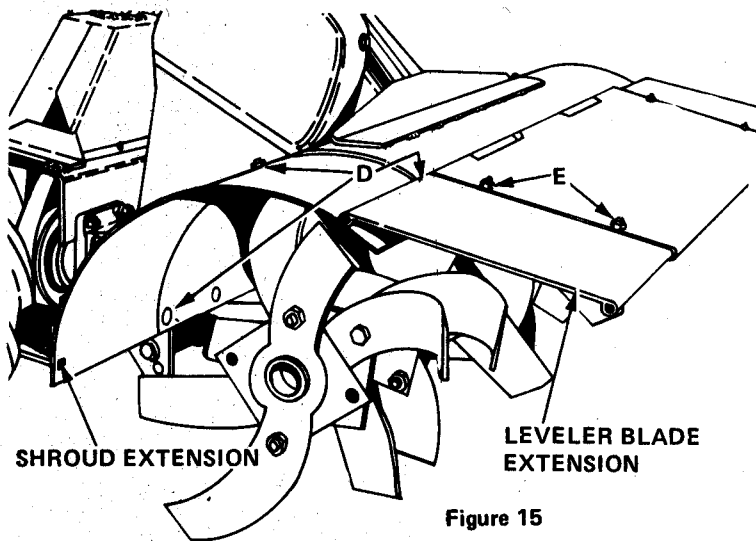

Figure 15
4. Attach shroud extension to shroud, Figure 15. Secure with three 5/16" x 1/2" carriage bolts and lock nuts at D.
5. Attach leveler blade extension to leveler blade as shown in Figure 15. Secure with two 5/16" x